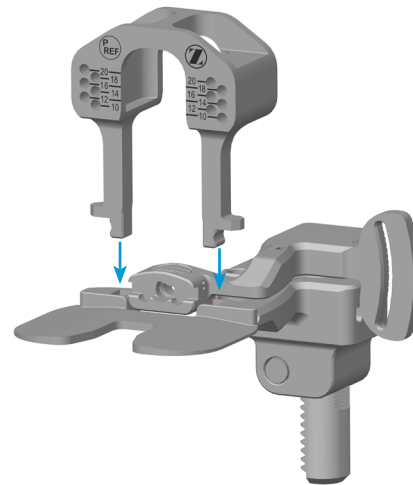

Fig. 47
- Remove the *Zimmer FuZion* Tensor from the extension gap. Remove the +9mm *Zimmer FuZion* Femoral Paddle. Assemble the Gap Referencing Drill Guide to the *Zimmer FuZion* Tensor (**Fig. 47**).